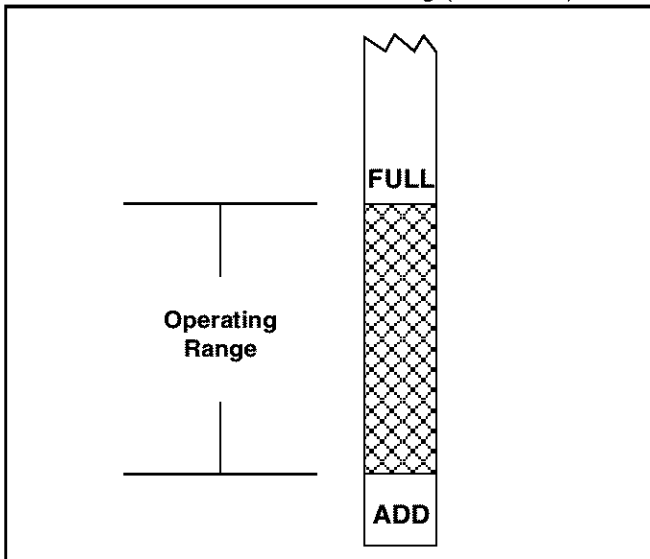

Figure 18
- Wipe the dipstick clean before pushing it back into the oil fill tube. **Do NOT thread the cap back onto the fill tube.** Withdraw the dipstick to check the oil level. Refer to Figure 18.
- Fill the crankcase until the oil level reaches the full (F) mark on the dipstick. Refer to Figure 18. Refer to the viscosity oil chart earlier in this section for information regarding the proper type of oil to add to the crankcase.
- **Slowly** pour oil into the fill tube. Fill the crankcase until the oil level reaches the full (F) mark on the dipstick (Refer to Figure 18).